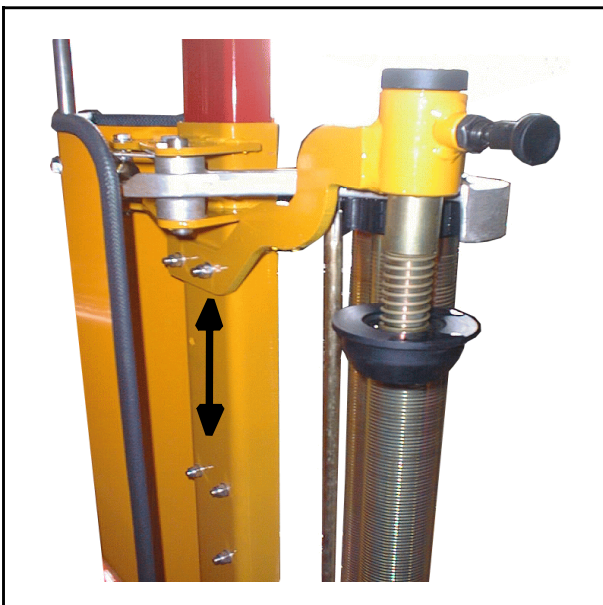

Fig. 4-3
- 4.2 Place a reel of film on to the pre-stretcher's holding axle and put on the spring loaded lock. The pre-stretcher is mounted to fit the 750mm film, but may be adjusted easily by moving the top bracket to the lower holes so as to fit the 500mm film. (See fig. 4-3)